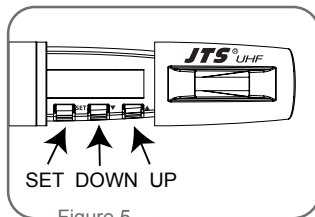

Figure 5
- 2-1 Press "Set" button 16 for 3 seconds, the group (G) will flash. (Figure 5)
- 2-3 Press "Set" again and the Channel (CH) will flash.